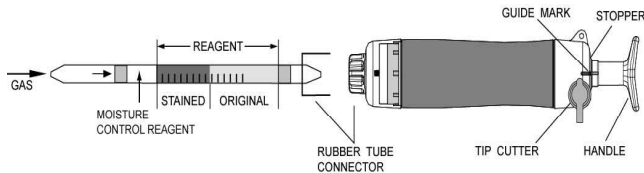

Fig.1
- ① Break both ends of the detector tube.
- ② Insert the detector tube into the aspirating pump securely as shown in Fig.1. (Arrow mark shall point to the pump.)
- ③ Align the guide marks on the shaft and stopper of the aspirating pump.
- ④ Pull the pump handle at a full stroke until it locks and wait for 1 minute or until the completion of sampling is confirmed with the flow indicator of the pump (See descriptions about the flow indicator in the instruction manual of the pump).
- ⑤ On completion of sampling, read the scale at the maximum point of the stained layer.
- ⑥ When the concentrations are below the scale range, 5 pump strokes can be used to determine these lower concentrations.
- ⑦ When the concentrations are over the scale range, a 1/2 pump stroke can be used to determine these higher concentrations.